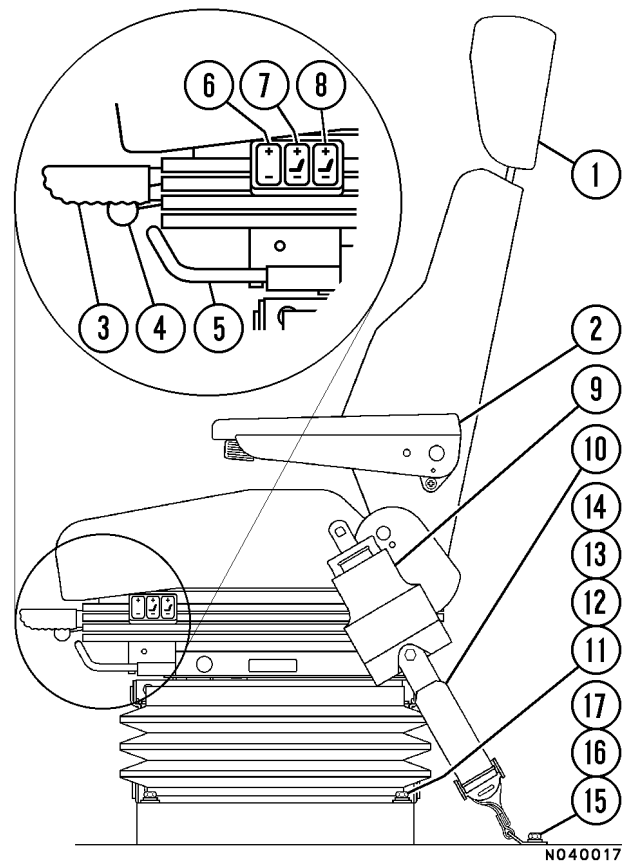

FIGURE 3-5. OPERATOR'S SEAT
1. **Headrest:** headrest (1, Figure 3-5) will move up, down, fore, or aft by moving headrest to desired position.
3. **Backrest:** Pull control (3) upward and hold, select backrest angle; release control handle.
- a. Front height and slope; lift control lever (4) and hold.
- a. Raise adjustment lever (5).
6. **Seat Height:** Press rocker switch (6) on top to increase ride height. Press on lower part of rocker switch to lower ride height.
- 7 & 8. **Air Lumbar Support** Each rocker switch (7 or 8) controls an air pillow. Switch (7) controls the lower air pillow and switch (8) controls the upper air pillow. To inflate, press on top of rocker switch and hold for desired support, then release. To deflate, press on bottom of rocker switch and hold for desired support, then release. Adjust each pillow for desired support.
1. Remove capscrews (11, Figure 3-5) and hardware that secures the seat base to the riser. Remove capscrews (15) that secures tether (10) to floor.
1. Mount seat assembly to seat riser. Install capscrews (11, Figure 3-5), lockwashers (12), flatwashers (13) and nuts (14). Tighten capscrews to standard torque.
2. Fasten tether straps (10) to floor with capscrews (15), flatwashers (16) and lockwashers (17). Tighten capscrews to standard torque.